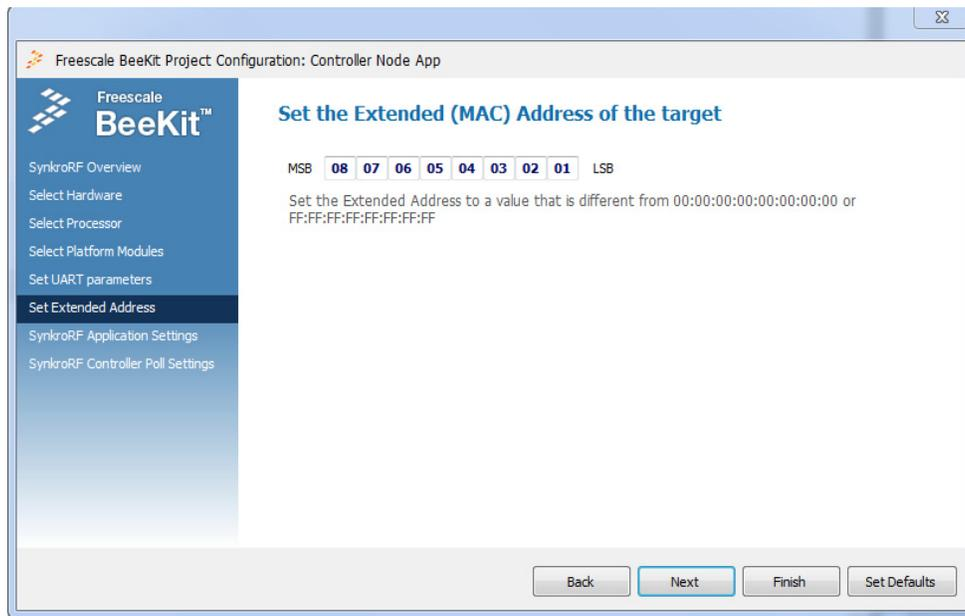

Figure 2-8. Extended Address configuration page
7. Click Next to go to the Extended Address configuration wizard page as shown in Figure 2-8.